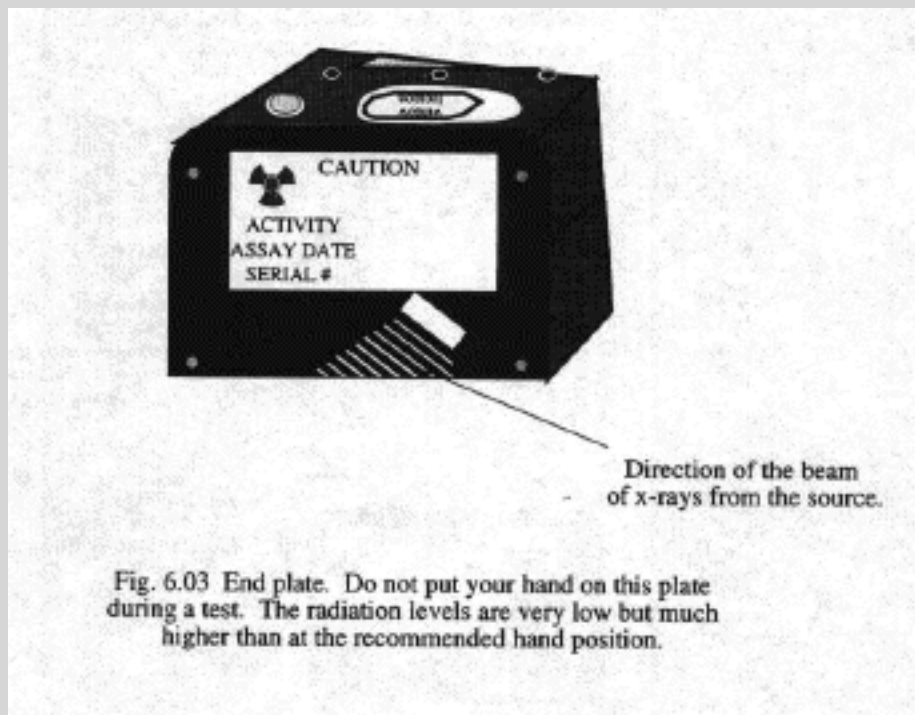

Fig. 6.03 End plate. Do not put your hand on this plate during a test. The radiation levels are very low but much higher than at the recommended hand position.
**Warning:** Always treat radiation with respect. Do not put your hand on the end plate of the NITON while measuring (Figure 6.03). Never point the NITON at yourself or anyone else when the shutter is open.
**Caution:** When testing the *exterior* of the window from the inside of a room, avoid standing in the path of the NITON's radiation beam. The direction of the beam is drawn on the cover of the instrument (Figure 6.03). It is easier to avoid the radiation beam if you hold the instrument in your right hand.